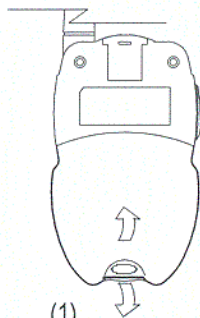

Figure 1.
1. Release the BATTERY COVER LATCH located on the rear side of the unit (1), and remove the BATTERY COVER from the BATTERY COMPARTMENT (2) See Figure 1.